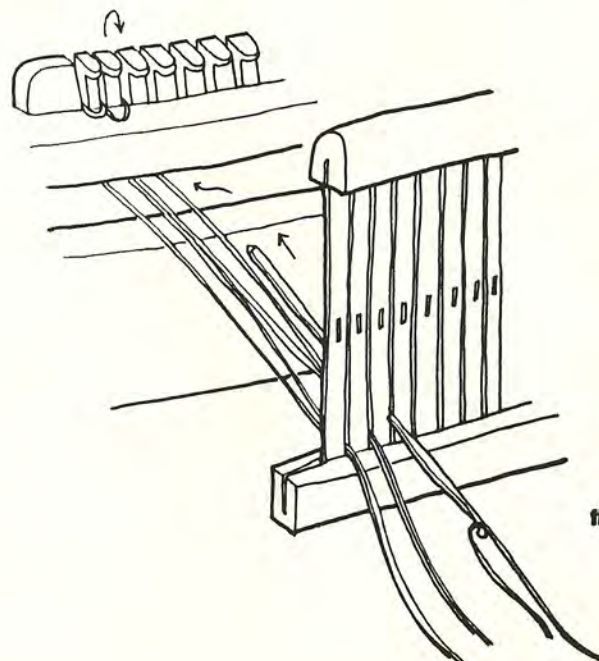

fig. 8
3. Pick up the top loop from the cross and insert it through the first slot in the heddle, bring it over the back beam, under the warp beam and loop it around the first dent on the warp beam (fig. 8). The slots in the 10 dent heddle correspond to the notches between dents on each beam. Take care to center the markings on the warp loops over the dents. Continue to place loops of warp in every slot and around each dent for balanced weave fabrics; in every other slot and around every other dent for weft faced fabrics; until all warp loops have been placed.